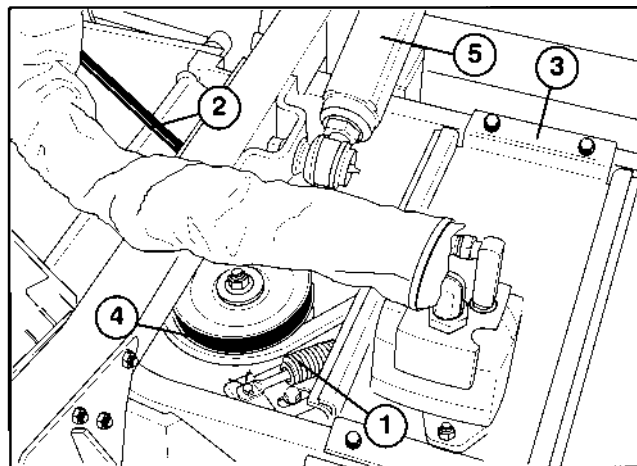

Figure 62
compression spring (Fig. 62) will be approximately 11.3 cm.
4. Remove the flange head screws securing the gearbox plate and separate the plate and drive motor assembly from the deck (Fig. 62). Be careful not to bend, twist, kink or damage flexible hydraulic lines.
3. Remove the flange-head screws securing the gearbox plate and separate the plate and drive motor assembly from the deck (Fig. 62). Be careful not to bend, twist, kink or damage flexible hydraulic lines.
4. Remove the hex head screws and flange locknuts securing each lift arm to the castor arm and separate from the arm (Fig. 62).